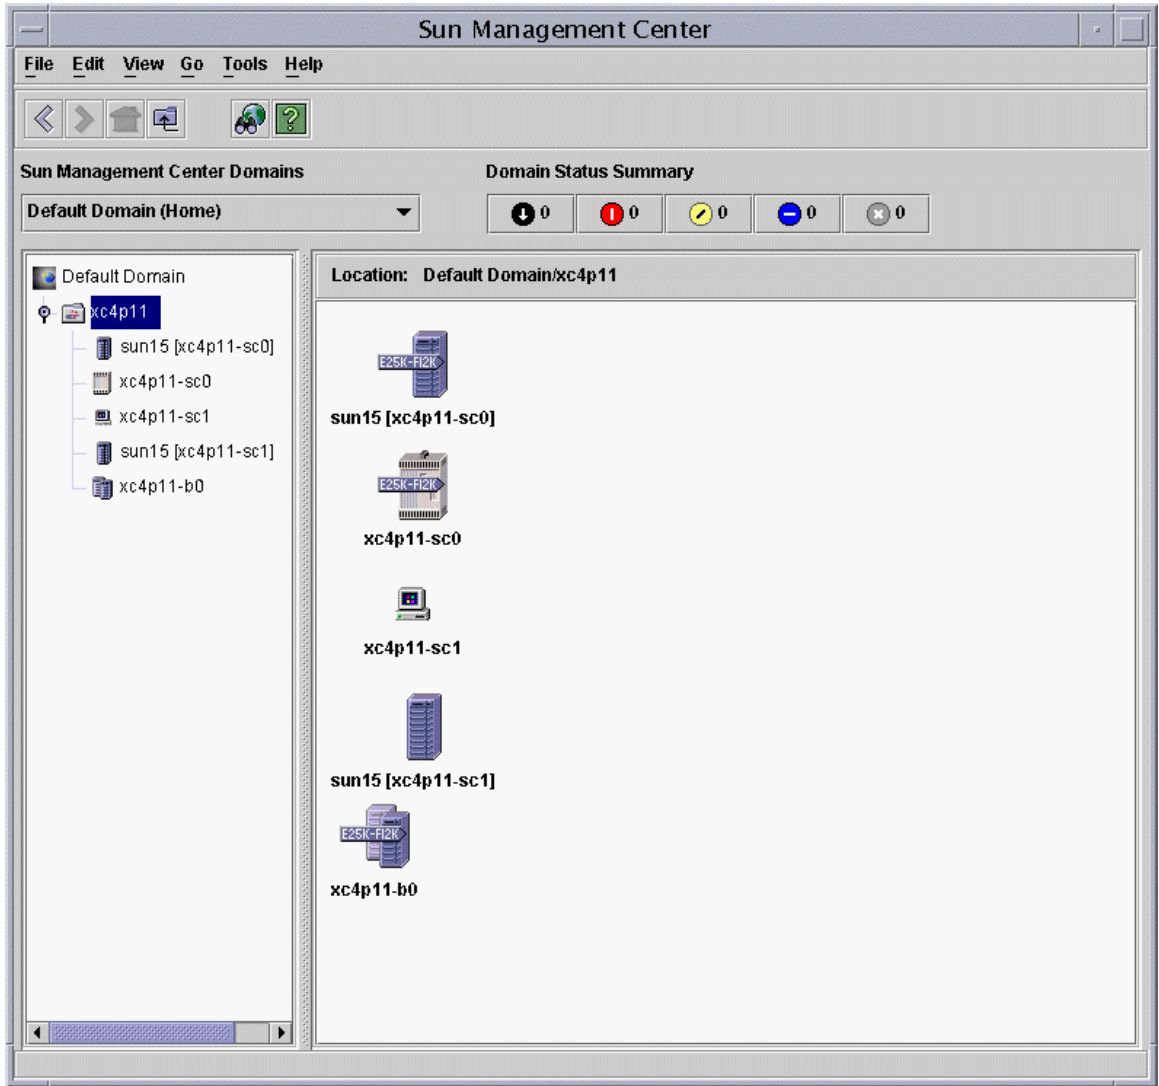

FIGURE 4-1 Example of a Sun Fire High-End Systems Composite
8. See FIGURE 4-1 for an example of a Sun Fire High-End Systems **composite**.